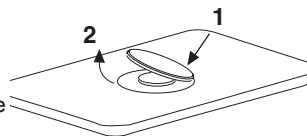

fig. 2
- remove the hole cover by pressing on one side only (fig. 2).